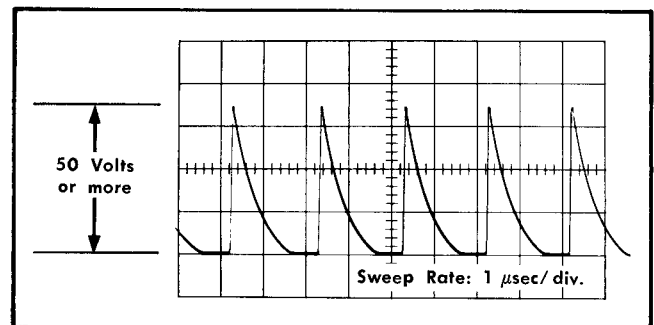

Fig. 6-4. Typical chopped-mode blanking pulse waveform as displayed on the test oscilloscope crt. Vertical deflection factor: 20 volts/div.
- d. Connect the probe from the test oscilloscope to pin 24 of the oscilloscope vertical-amplifier interconnecting socket. Check that the amplitude of the blanking pulse is 50 volts or more in amplitude (see Fig. 6-4). (If the amplitude is lower than 50 volts, V533 may need replacing.) Leave the probe connected while performing step 11e to check for at least 50 volts amplitude.